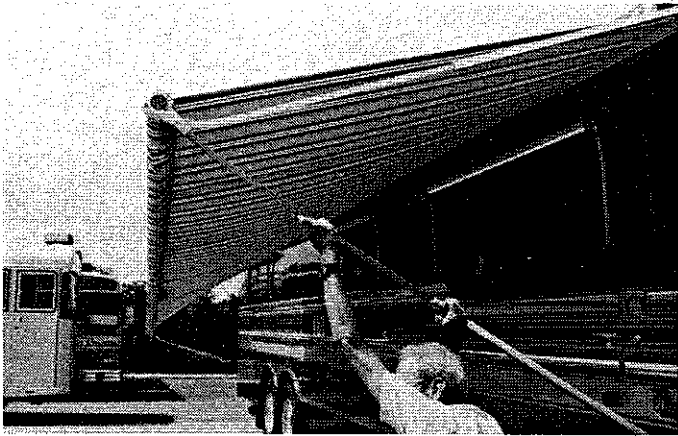

Figure 11-4.
4. Referring to **figure 11-4**, raise awning to desired height by releasing snap stud on main arm and pushing up and out on roller assembly. Lean, so that body weight — rather than arm strength — carries out this step.